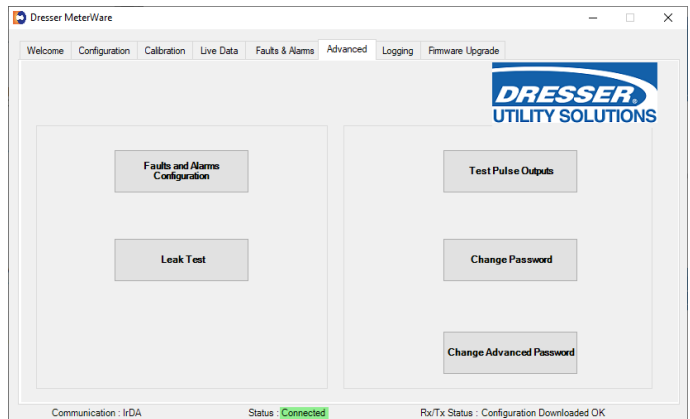

Figure 7.11 Example - “Advanced” screen of the Dresser MeterWare software
1. The Leak Test feature is also accessible through the “Advanced” screen of the Dresser MeterWare software as shown in Figure 7.11 Example. This method requires the user to connect to the meter using the IR communication cable.